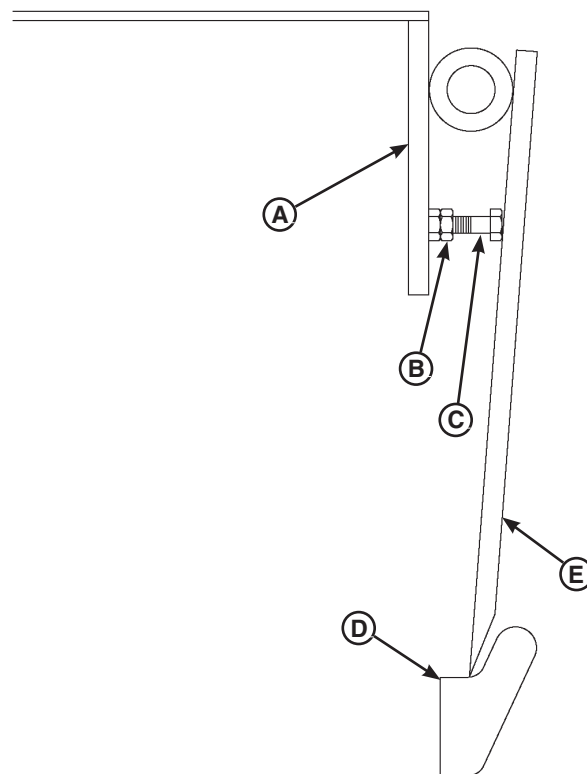

Figure 24
Check that lip (E) is fully resting on the lip keepers (D) and at the lowest part of the keeper cradle (Figure 24). If lip is not resting properly on keepers, perform the following adjustment.
2. Loosen jam nut (B).
3. Adjust stop bolt (C) as necessary.
- Turn stop bolt “in” (clockwise) to allow lip to fold closer to platform (A).
- Turn stop bolt “out” (counterclockwise) to hold lip farther away from platform (A).